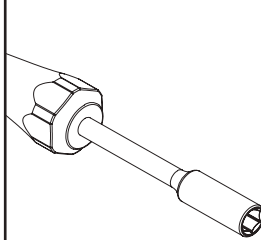
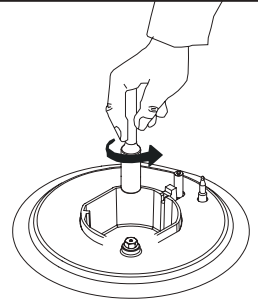

Figure 2
Figure 3
- 2.** With the help of a screwdriver (7 mm) with the tip as shown in figure 2, remove the injector by turning it. (See Fig. 3)